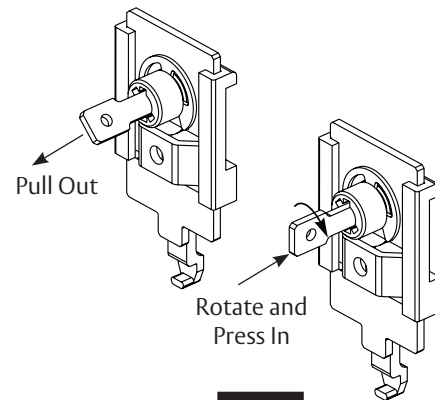

Figure 17
- 15. Reposition spindle as shown in Figure 17 if necessary.